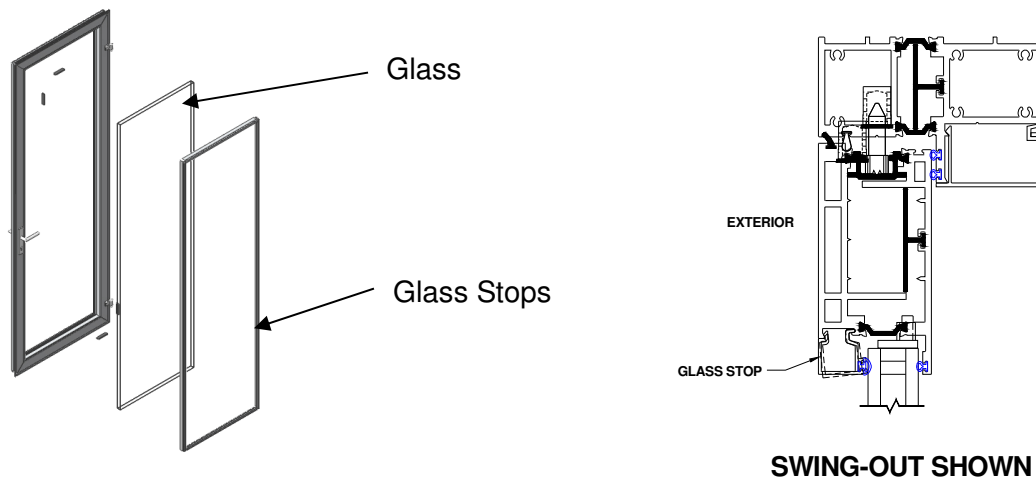

Figure 12:
- Install glass setting blocks (total 4 pcs per panel) at 1/4 points into jamb, head and sill for hinged lower corner and opposite upper corner (Figure 12).